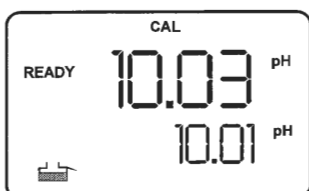

Figure 4: 3rd-point calibration
17. Wait for the measured pH value to stabilize (when the [READY] indicator displays in the left-hand corner) (see Figure 4).